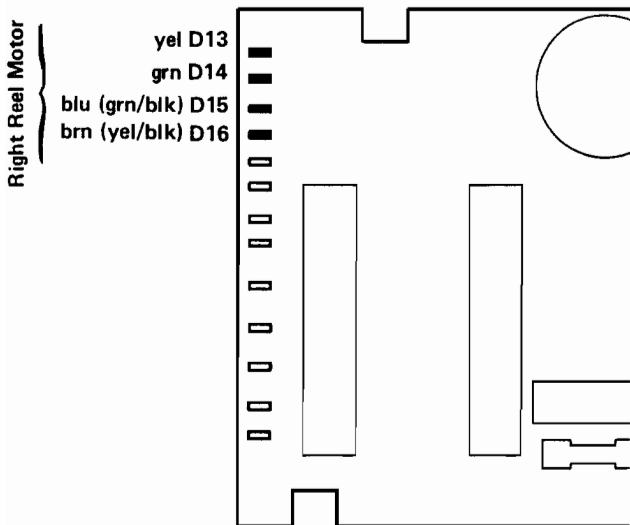
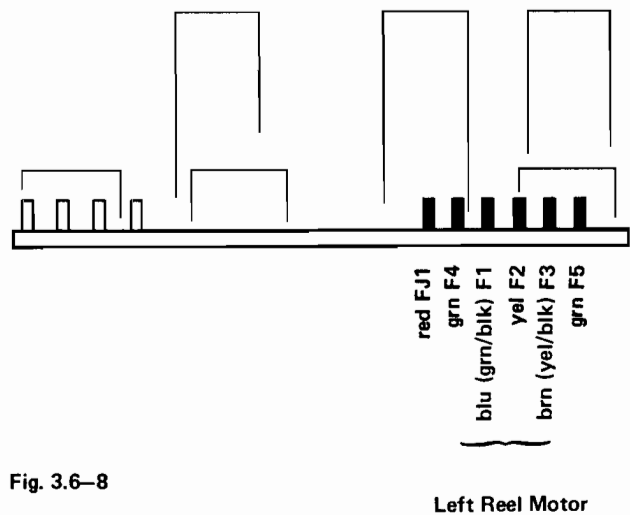

Fig. 3.6-7
Fig. 3.6-8
- Unplug motor cable connectors; right reel motor, regulator card ( fig. 3.6-7 ); left reel motor, control card ( fig. 3.6-8 ).